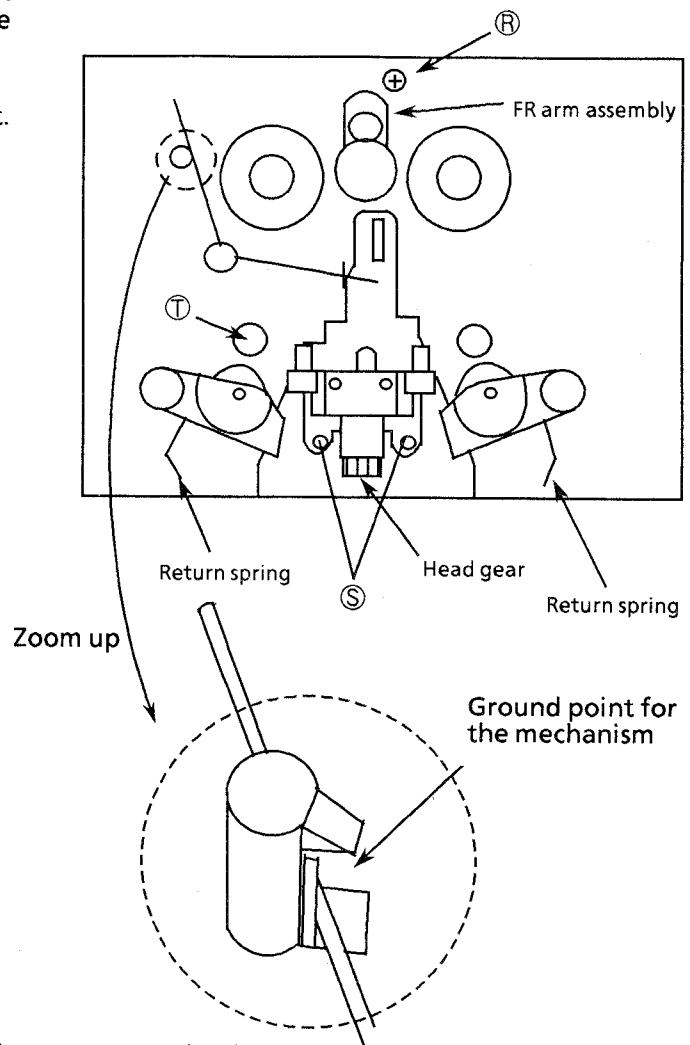

Fig. 14 Front view of the cassette mechanism
- (1) Release the return springs from the hooks (Fig.14) .
- (1) Remove the mechanism assembly.
- (2) Remove the reel motor PC Board.
- (3) Remove the FR arm assembly (Fig. 14) .
- (4) Remove the screws \textcircled{R} fixing the motor.
- (5) Release the hooks fixing the motor and remove the motor.